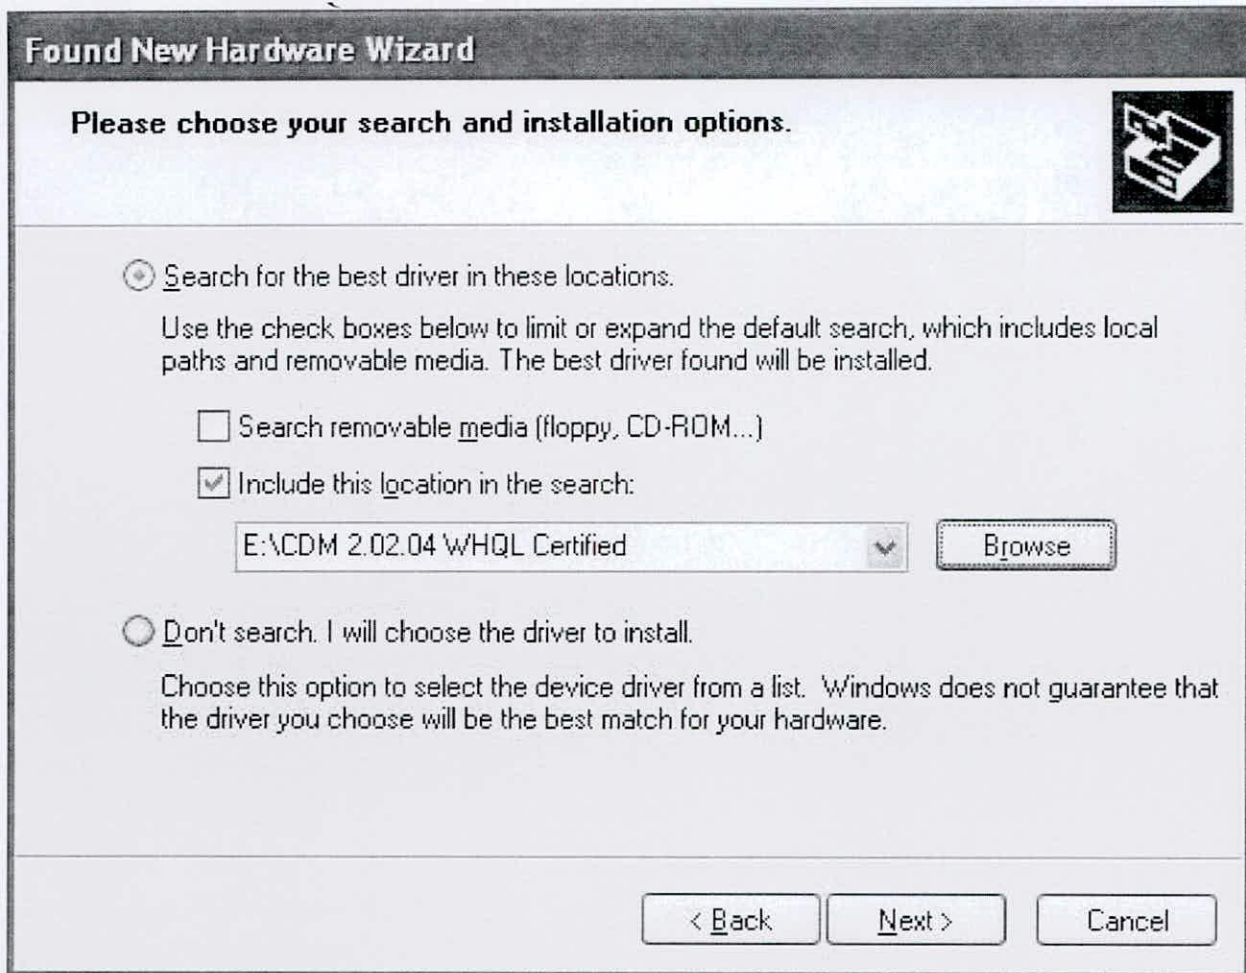

Figure 3-4. Driver Location
5. Browse to the location of the driver folder in the CD "CDM 2.02.06 WHQL Certified", see Figure 3-4.